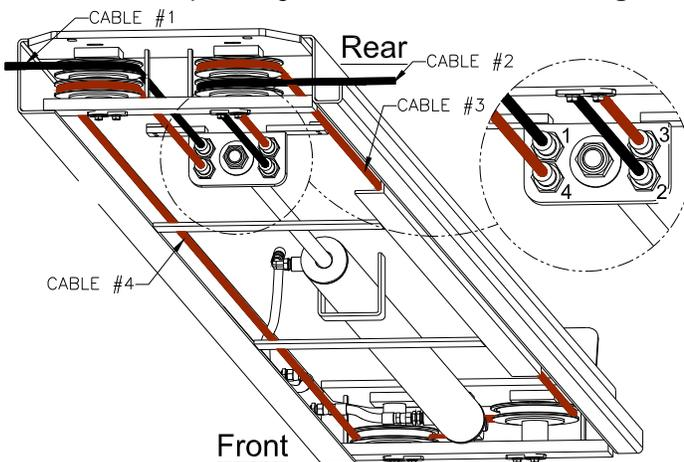

Fig 9 – Cable Layout
- 13) At the rear of the power runway, continue routing cables #3 & #4 to the front of the power runway sheaves, **Fig 9**.